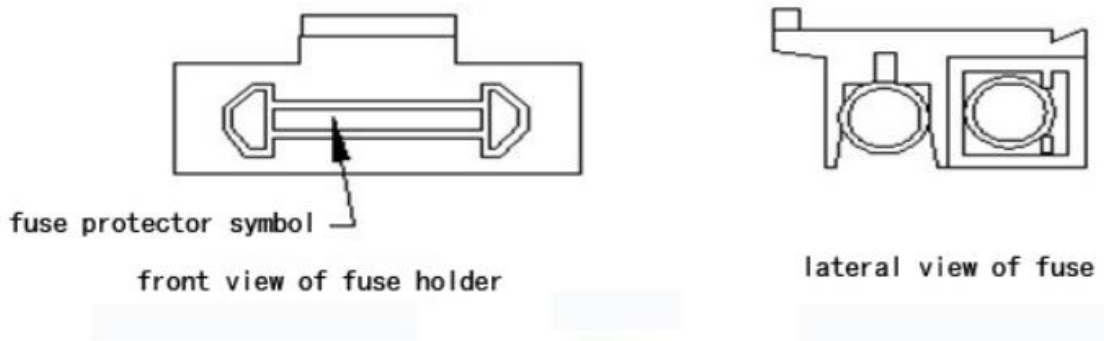
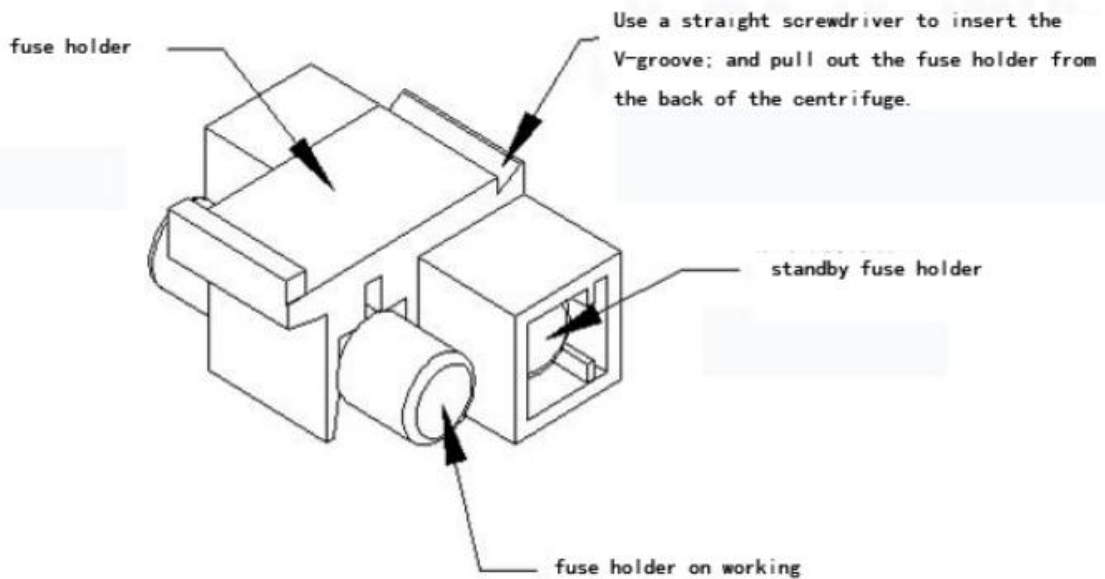

Fig. 4
Fig. 5
- (2) There is a fuse holder below the power socket on the back side of the centrifuge (Fig.4), with a fuse symbolic identification, find the V-groove of the fuse holder (Fig.5); use a straight screwdriver to insert this groove, and pull out the fuse holder.
- (3) Take out the damaged fuse protector and discard it, take out the standby fuse protector from the holder and install it, the fuse protector specification of this centrifuge is BGXP BGXP $\phi 5 \times 20$, 250V, 10A.
- (4) Insert the fuse holder into the power socket.